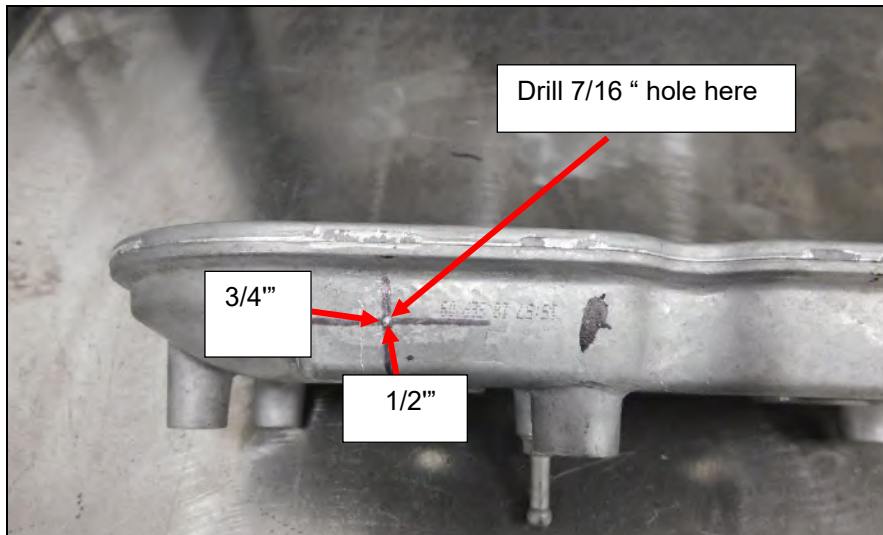

Figure 9
9. Use a screw driver and a small hammer to bend the wedge shape down at reference line **A** to create a block off wall at the end of the baffle plate. The material is very soft and works easily (**Figure 9**).